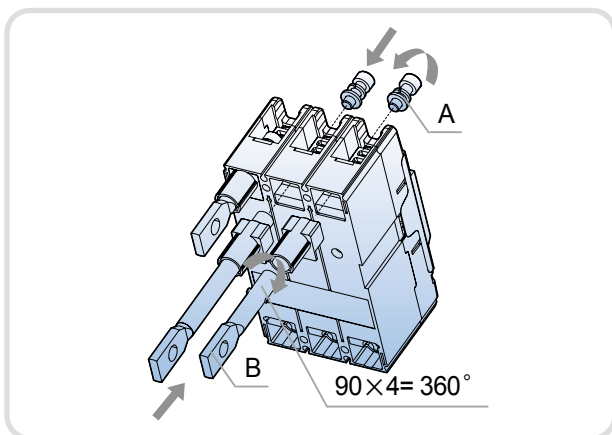
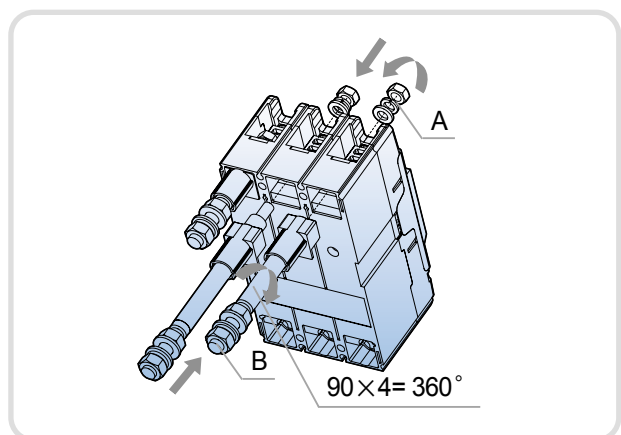

Fig. 1. Bar back type installation
Fig. 2. Round back type installation
1. Please install back type terminal to circuit breaker as seen in Fig. 1 and Fig. 2.